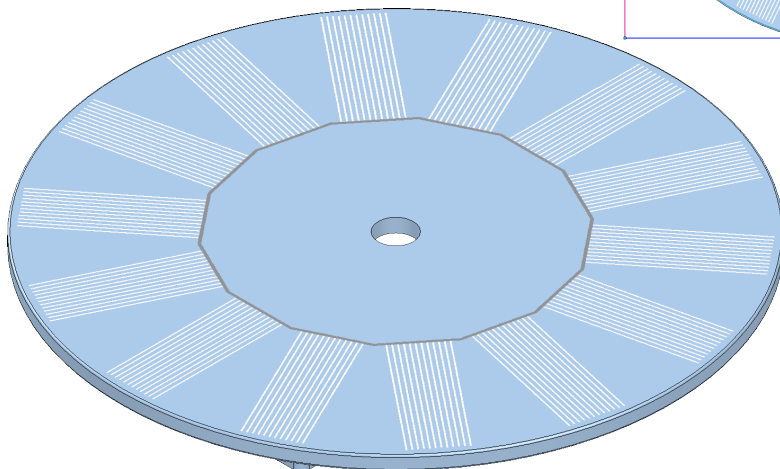

**Fig. 29**
Step 4. Click **Mapping** tab  at the top of the Decals Manager, **Fig. 29**